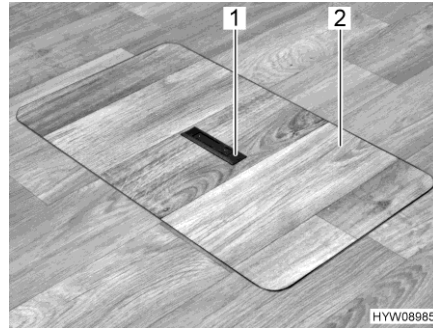
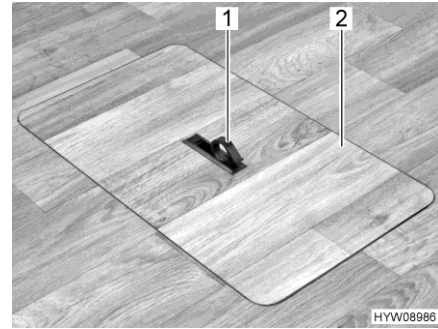

Fig. 82 Floor storage compartment cover (handle recessed)
Fig. 83 Floor storage compartment cover (handle swung out)
- Push one side of the grip plate (Fig. 82,1) downwards. The handle (Fig. 83,1) swivels upwards.
- Remove the cover (Fig. 83,2) upwards.
- Insert the cover (Fig. 83,2) in the frame on the floor.